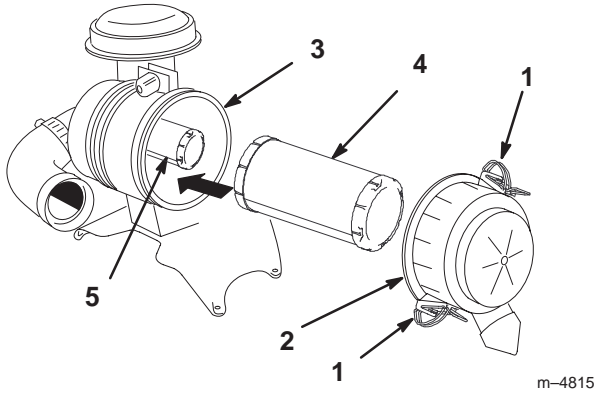

Figure 40
3. Release the latches on the air cleaner and pull the air cleaner cover off of the air cleaner body (Fig. 40).
5. Gently slide the primary filter out of the air cleaner body (Fig. 40). Avoid knocking the filter into the side of the body.
- If the safety filter is being replaced, carefully slide it into the filter body (Fig. 40).
- Carefully slide the primary filter over the safety filter (Fig. 40). Ensure that it is fully seated by pushing on the outer rim of the filter while installing it.
- Install the air cleaner cover with the side indicated as **UP** facing up and secure the latches (Fig. 40).